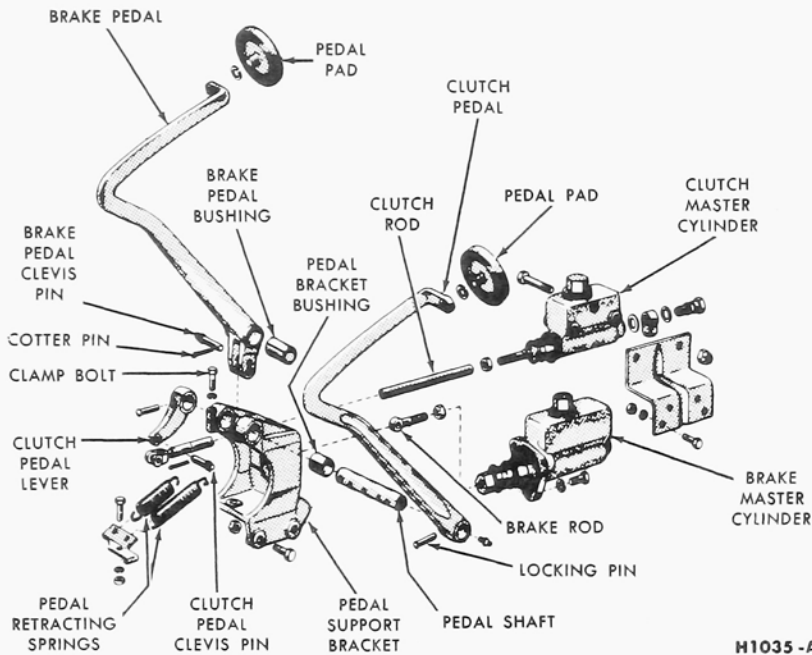

FIG. 11—P-350 Series Brake Pedal and Related Parts
2. Remove the pedal pads from the clutch and brake pedals (Fig. 11).